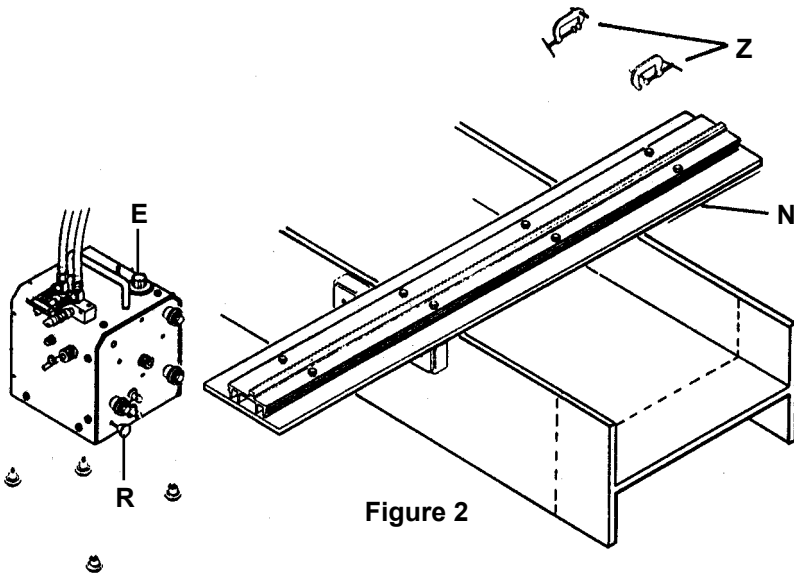

Figure 2
1. Accurately mark the line where the cut will be made on the beam. Install **Beam Rail (N)** approximately 8" (200 mm) behind this line (The rack teeth on beam rail should face away from line). Make sure beam is free of dirt, chips, and other debris which would prevent magnets or beam rail from setting flat and result in a crooked cut. Place **Beam Rail (N)** on the beam and adjust, making sure it is parallel to the layout line (parallelism is most important). Next install the two "**C**" **Clamps (Z)** to hold down end opposite magnets.(Ref. Fig. 2)
2. Depress **Clutch Knob (R)** and slide **BEAM BUG III** onto beam rail.
NOTE: **Clutch Knob (R)** faces away from rack teeth on beam rail. Be sure all four wheels are on the rail before starting. (Ref. Fig. 2)